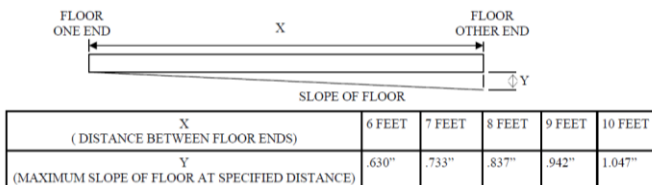

Figure 1: Allowable Floor Slope
- The floor must not have a slope of more than .5 degrees. See Figure 1 to determine the allowable slope of the floor for an installation.